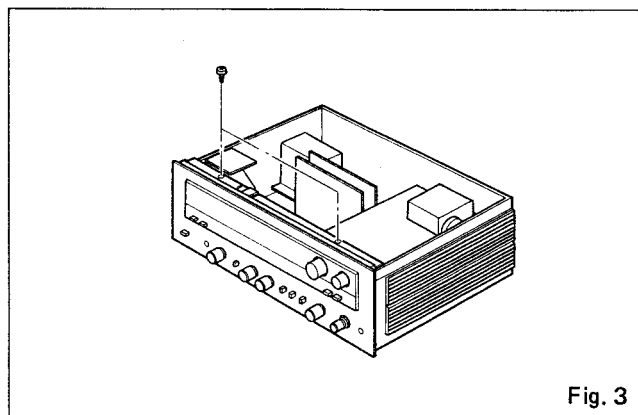

Fig. 3
- 3) Remove the two screws shown in Fig. 3.